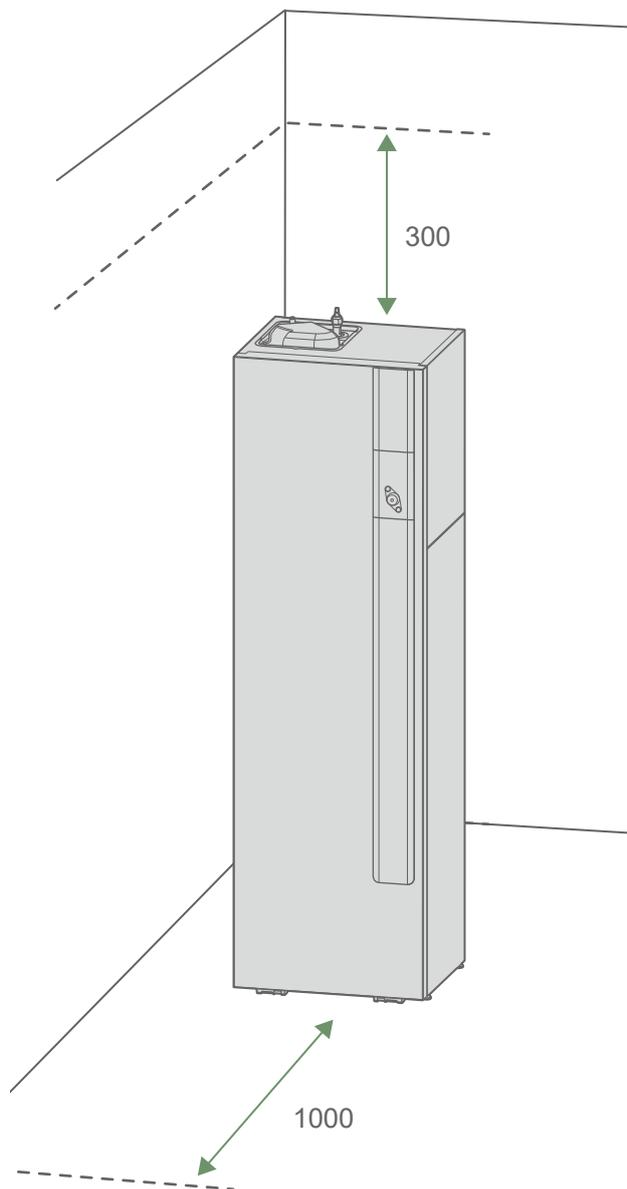

fig. 18 - Minimum installation clearance requirements around the hydraulic unit for maintenance
- When operating, water may be discharged from the outdoor unit. Do not install the appliance on a terrace, but choose a well-drained spot instead (bed of gravel or sand). If the appliance is installed in a region where the temperature can stay below 0°C for a long period, check whether the presence of ice may represent any danger. It is also possible to connect a drain pipe to the condensate drain tray (optional) (*"Fig. 18 page 17*).
- To make maintenance easier and allow access to the various components, it is recommended to allow for enough space all around the hydraulic unit (fig. 18).